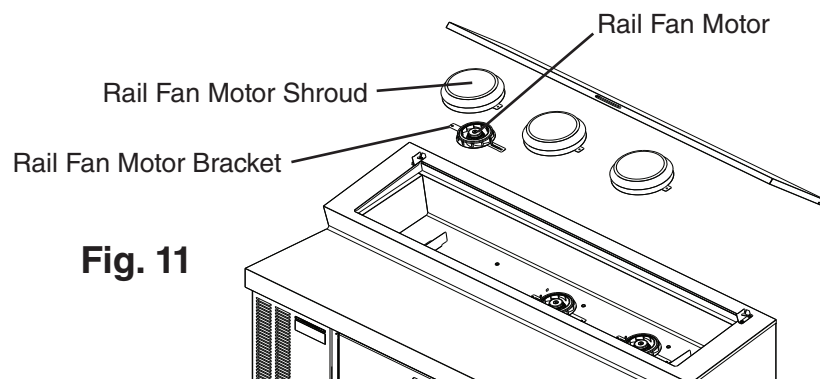

Fig. 11
- 3) Remove the rail fan motor shroud. See Fig. 11.